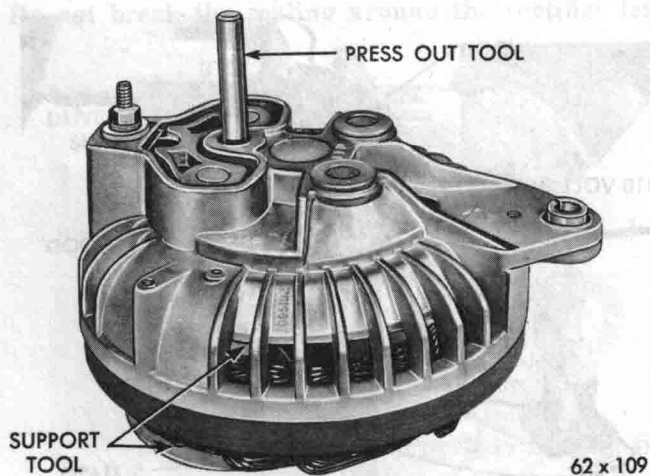

Fig. 41—Removing a Rectifier (Typical)
**NOTE:** This tool is cut-away and slotted to fit over the wires and around the bosses in the shield. Make sure that the bore of the tool completely surrounds the rectifier, then press the rectifier out of the shield using a suitable press-out tool (Fig. 41).